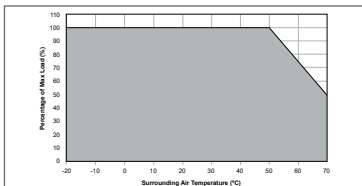

Fig. 5. Output Load De-rating
- $> 50^\circ\text{C}$ de-rate power by 2% / $^\circ\text{C}$ (Refer to Fig. 5).